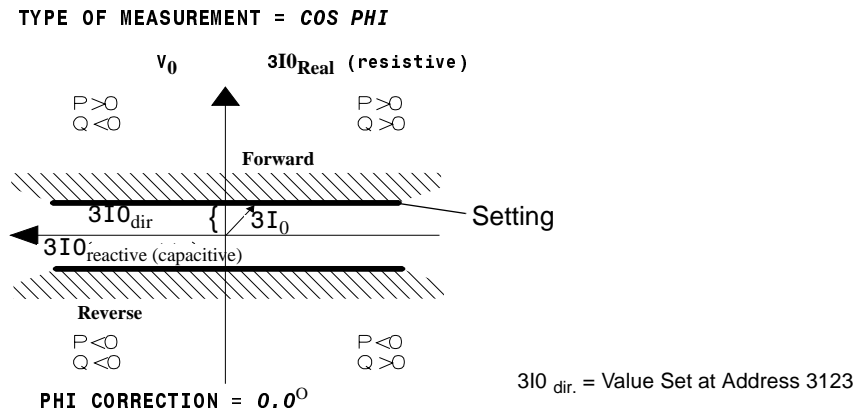

Figure 6-33 Directional Lines for cos-φ Measurement
Figure 6-33 illustrates the directional characteristic of the sensitive ground fault detection function using a complex vector diagram in which the displacement voltage V_0 is the reference magnitude. Address 3125 is set to **COS PHI**, therefore, the current $3I_{0real}$ is calculated and compared with the value set at address 3123. The directional limit lines are perpendicular to $3I_{0real}$.
- Address 3125 = **cos** φ : the real component of the zero sequence current with respect to the displacement voltage (the component of $3I_0$ in phase with V_0 or $3V_0$) is evaluated by the setting at address 3123 (see Figure 6-33);